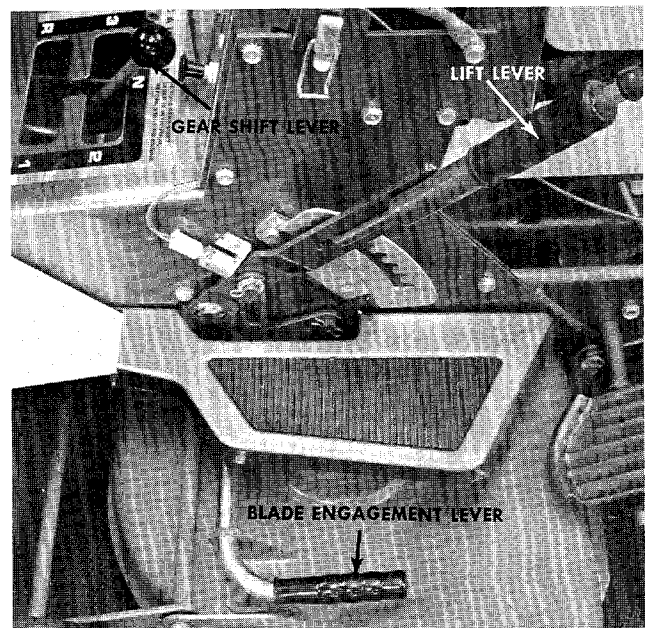

FIGURE 13. CONTROLS
- Step 1. With the machine set on level ground place gear shift lever in neutral (N). See figure 13.
- Step 2. Place the lift lever in the **DISENGAGE** position. See figure 13.
- Step 7. Lower the cutting deck with the lift lever. See figure 13.
- Step 8. Slowly engage the blade engagement lever. See figure 13.
Move the blade engagement lever forward to stop the blades from turning. See figure 13.